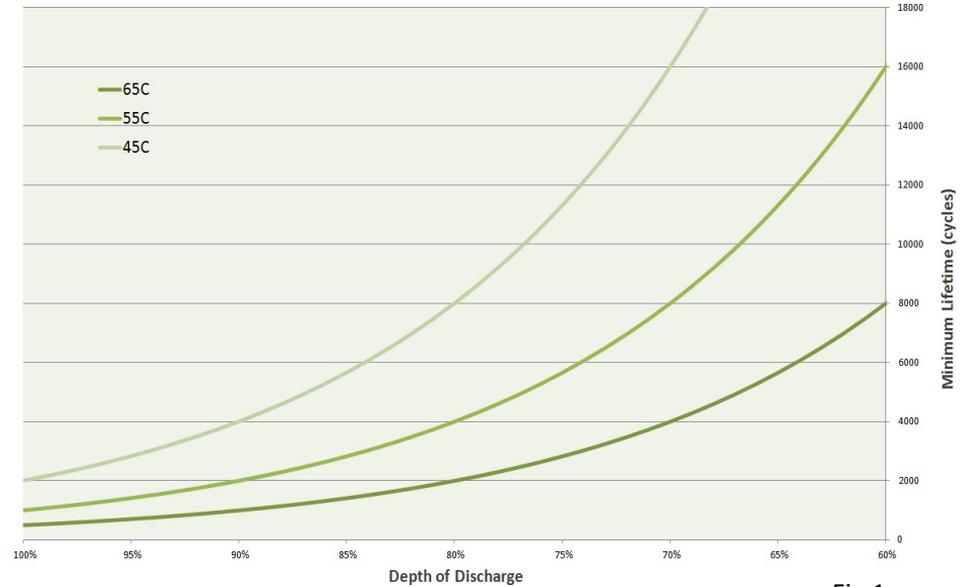

Fig.1
**Depends on DoD, see Figure 1: Minimum Lifetime vs. Depth of Discharge
The increasing integration of distributed renewable energy has increased stress on the power grid. By their very nature, photovoltaic (PV) energy fluctuates dramatically with weather. This fluctuating power output from these renewable sources can cause line regulators, tap changers, and switched capacitors to switch much faster than before. PV and inverter instabilities can also contribute to transients, harmonics, and instability in the distribution system. For example, if a PV string was generating 100 kW and a cloud passed over the array, this power could drop to under 50kW in less than 30 seconds. This can be very disruptive to the stability of the grid. Adding energy storage to an existing PV system is one way to reduce these harmful effects. As can be seen above in figure 1, the Pacific Energy system can be added on to existing systems. The energy storage can buffer the output of the PV, reducing weather anomalies. The energy storage can also be used to level peaks in demand, create custom daily power outputs, and optimize the time at which the solar energy is sold for maximum profit.